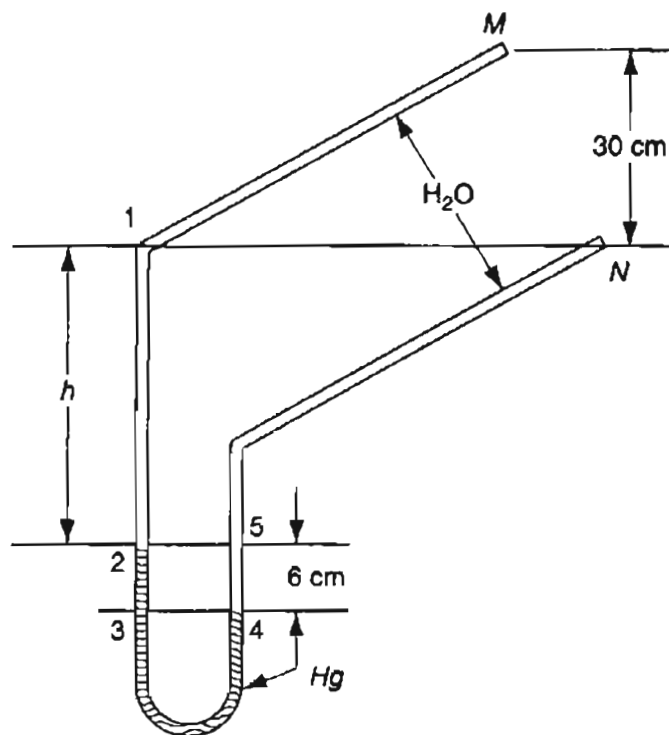

Figure P5.24
- ***5.24** In Figure P5.24, Hg is used to measure the pressure between the points M and N. Water occupies the space above the Hg. What is Δp between M and N? Which pressure is higher, p_M or p_N ?